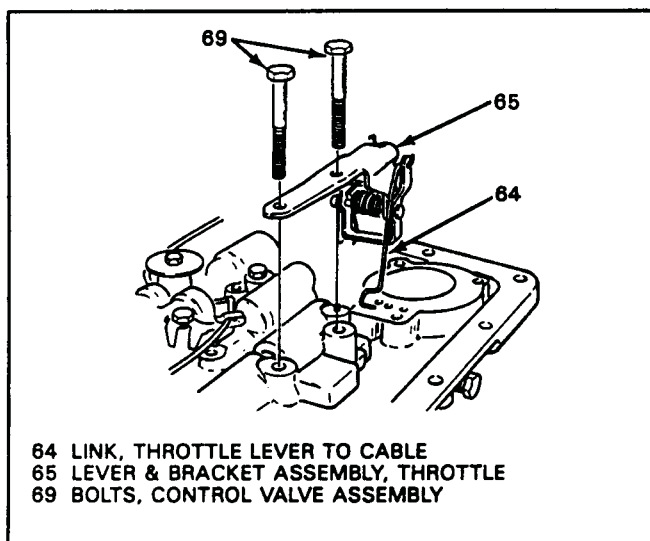

Figure 56
11. Remove the T.V. lever and bracket assembly (See Figure 56).